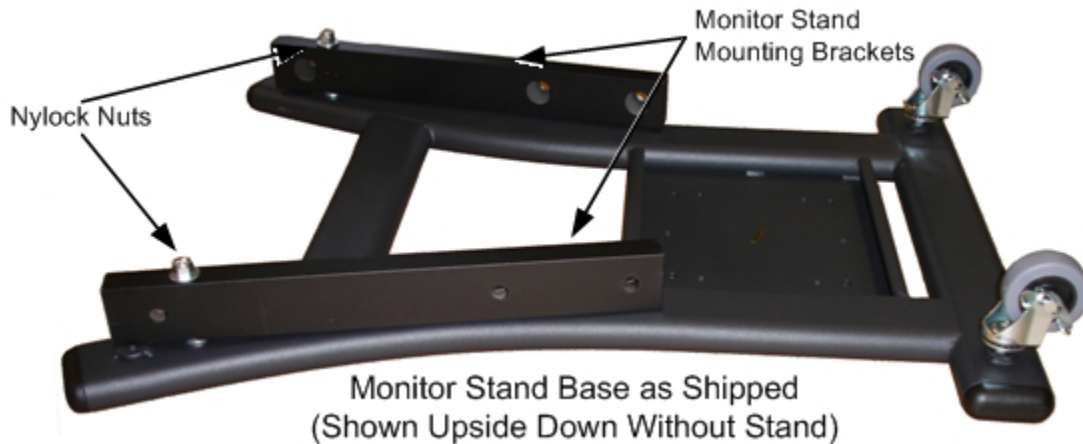

Figure 1. Mounting Brackets on Monitor Stand Base
1. Locate the four (4) 3/8" x 2" bolts with lock washers. They should be in the coin box.
2. Refer to Figure 1 and rotate the Monitor Stand Mounting Brackets on the Monitor Stand Base so they extend away from the Base. (You may need to loosen the Nylock nut slightly.)